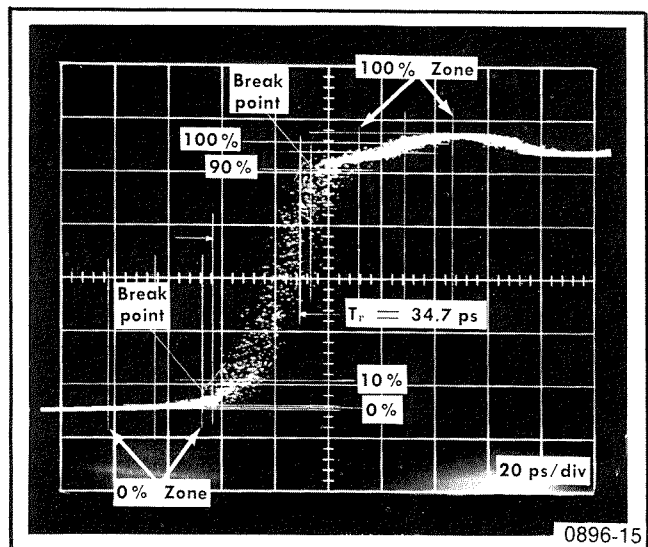

Fig. 4-8. Combination of Type S-4 and Type S-52 risetime measurement.
- (1) Mark reference points at maximum rate of change, the break points shown in Fig. 4-8.
- (2) Mark the centers of the 0% zone and 100% zone (the specified system risetime, 35 ps), 35 ps from the reference break points, shown in Fig. 4-8.
- (3) mark the average level of the 0% and 100% zones through the centers of the zones.